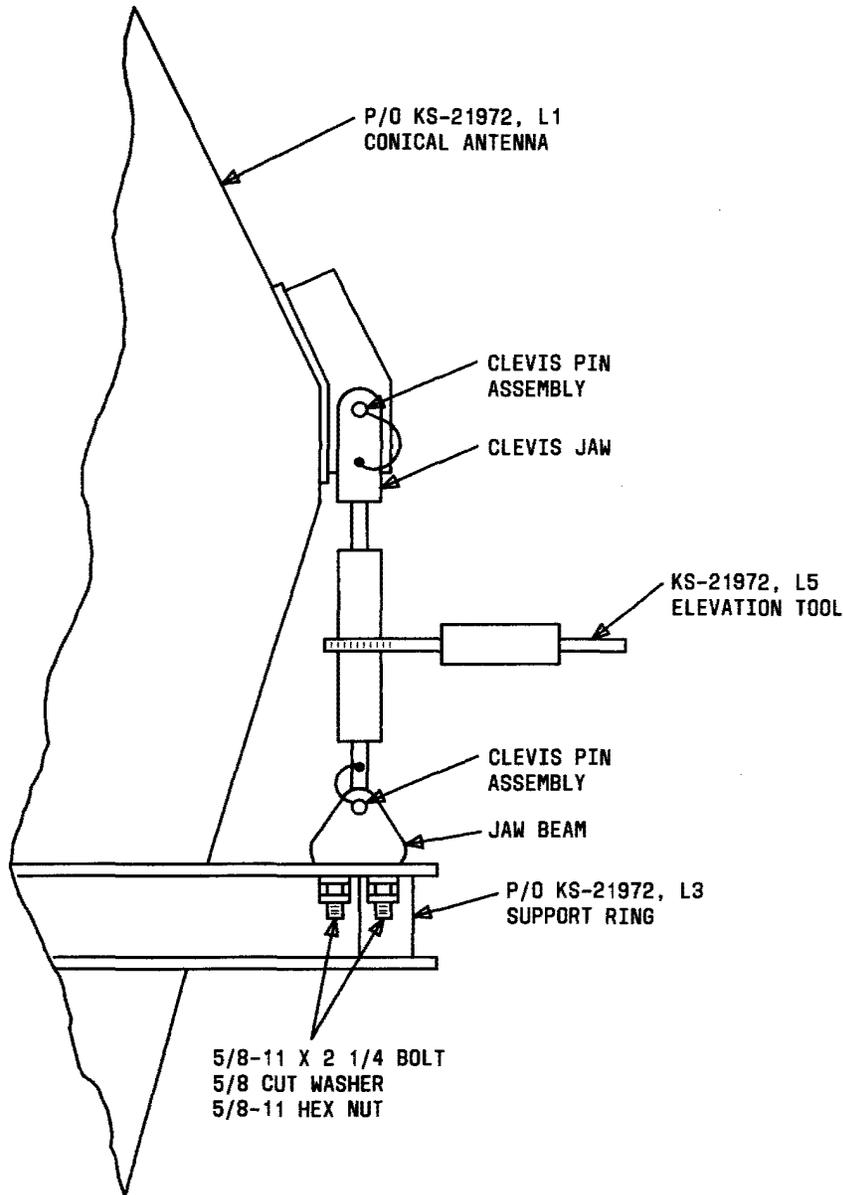

Fig. 12— Assembly of the KS-21972, L5 Elevation Tool to the L1 Conical Antenna and L3 Support Ring
L. Assembly of List 5 to Lists 1 and 3 (See Fig. 12)